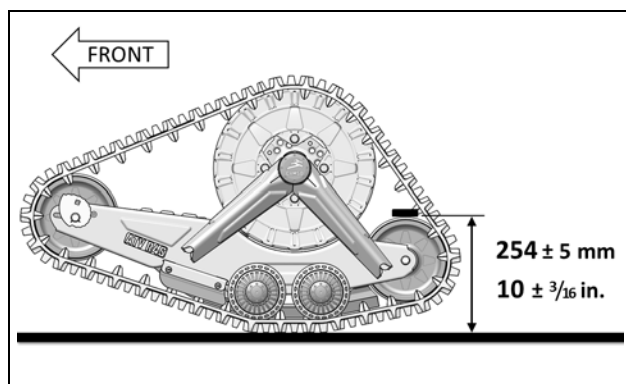

Figure 8
- Once the centered bubble in the level indicates that the angle of attack is correct, double-check the setting by validating the distance from the top of the back tires to the ground. Figure 8.
- Position a flat bar on top of the rear wheels of the front Track System and measure from the ground up to the flat bar as shown on Figure 8.